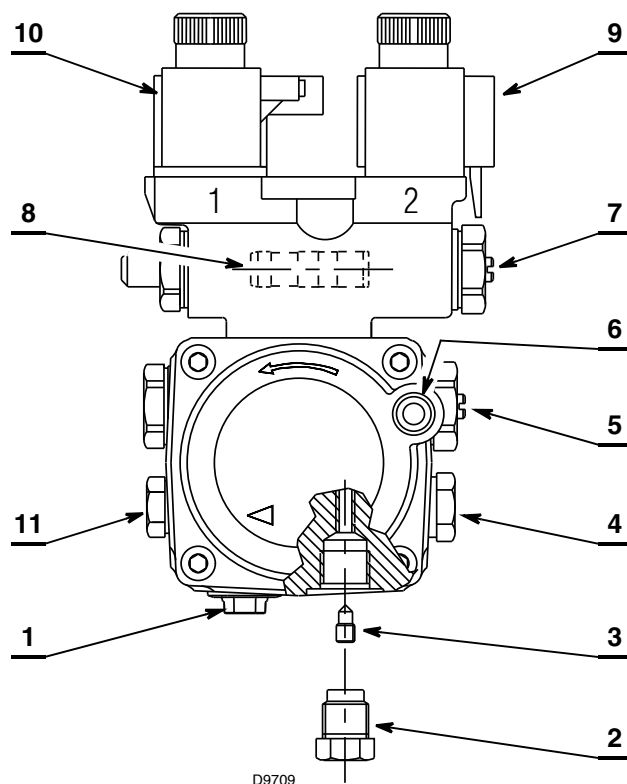

Fig. 11
- The pump (Fig. 11) is suitable for two-pipe operation. For single pipe operation it is necessary to loosen the return line nut 2), remove the by-pass screw 3), then retighten the nut 2) (Fig. 11).
The closure plug of the oil supply (Suction line 1) (Fig. 11) is plastic. Once removed, you must throw it away and not re-use it under any circumstances. In one-pipe systems, the plug supplied on the return line 2) of the pump is steel.
Key (Fig. 11)
It is sufficient to loosen the vacuum connection 6) (Fig. 11) and wait until fuel flows out.